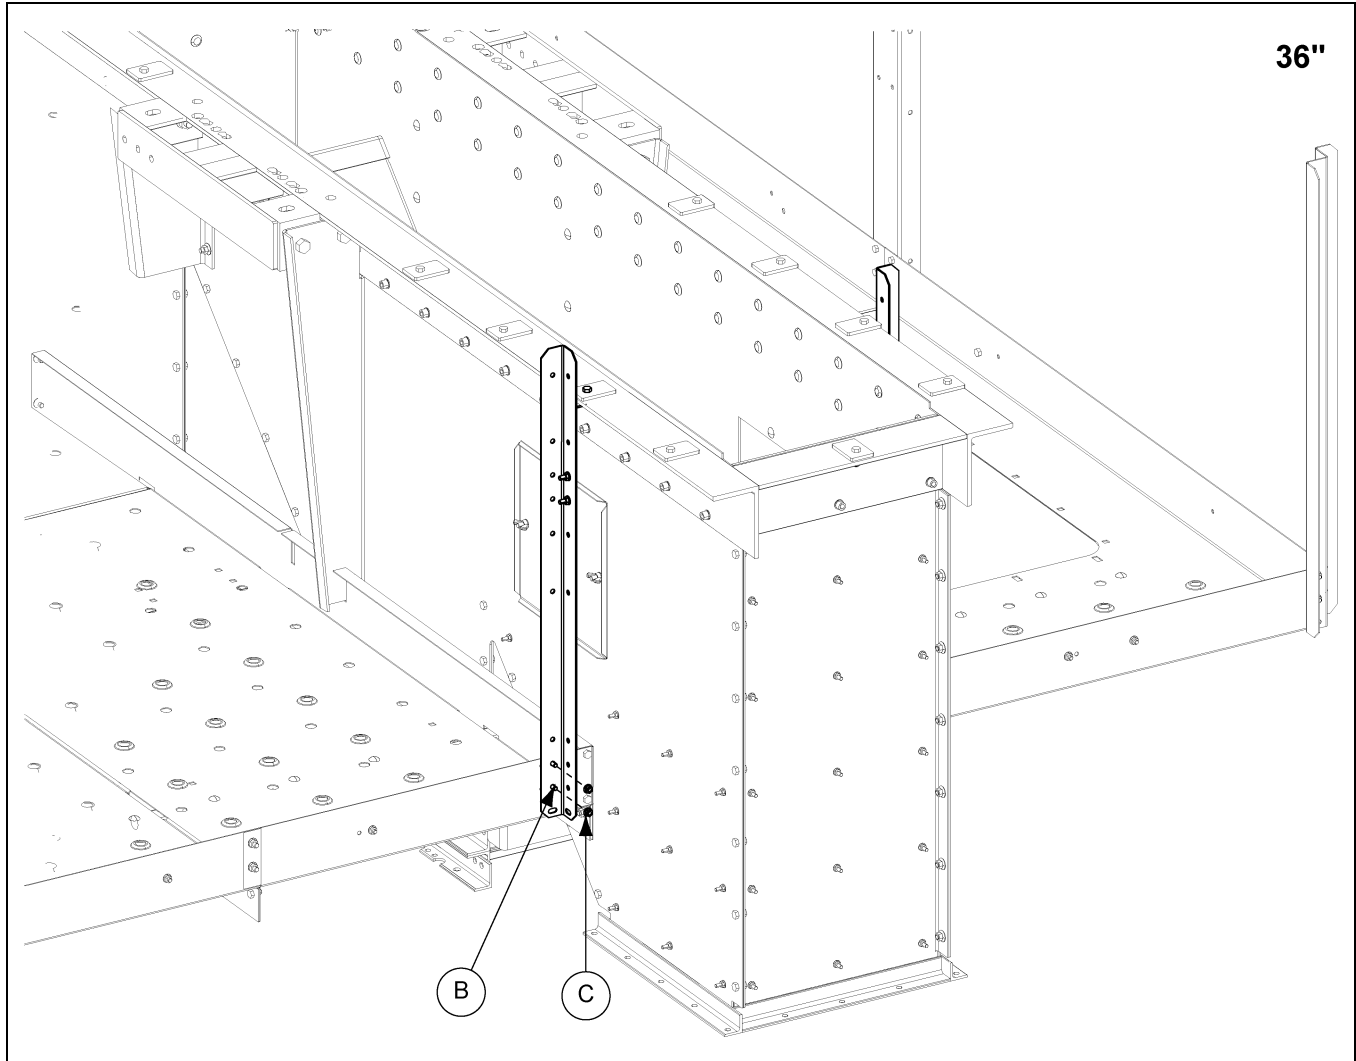

Figure 10I
3. Attach side post to decking using 5/16" x 3/4" bolts (S-6606) (B) and nuts (H). *(See Figure 10I.)*